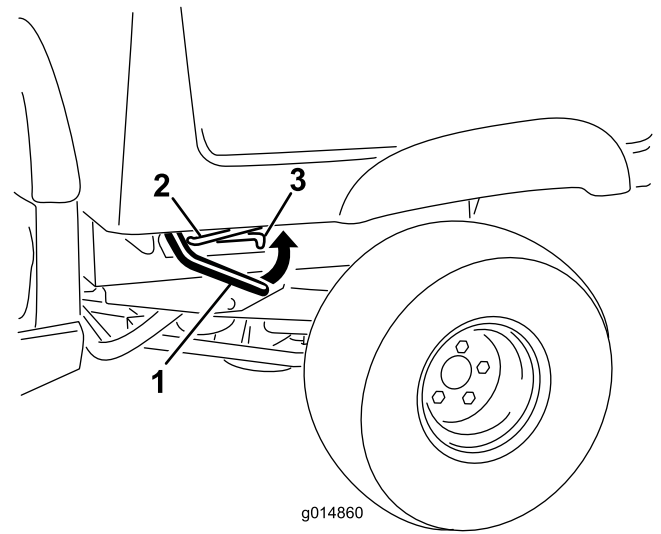

Figure 17
1. Lift the lever on either side of the box and lift the box up (Figure 17).
2. Pull the prop rod into the detent slot, securing the box (Figure 17).